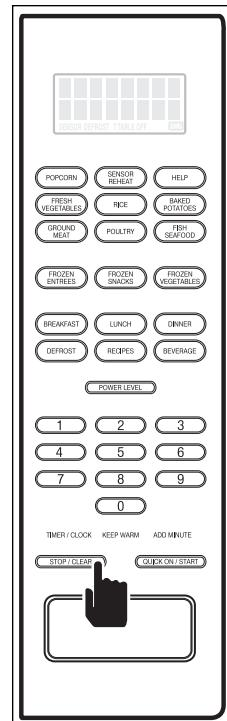

Figure 3-23.
3. Press the STOP/CLEAR key and the display will go blank. (See Figure 3-23).